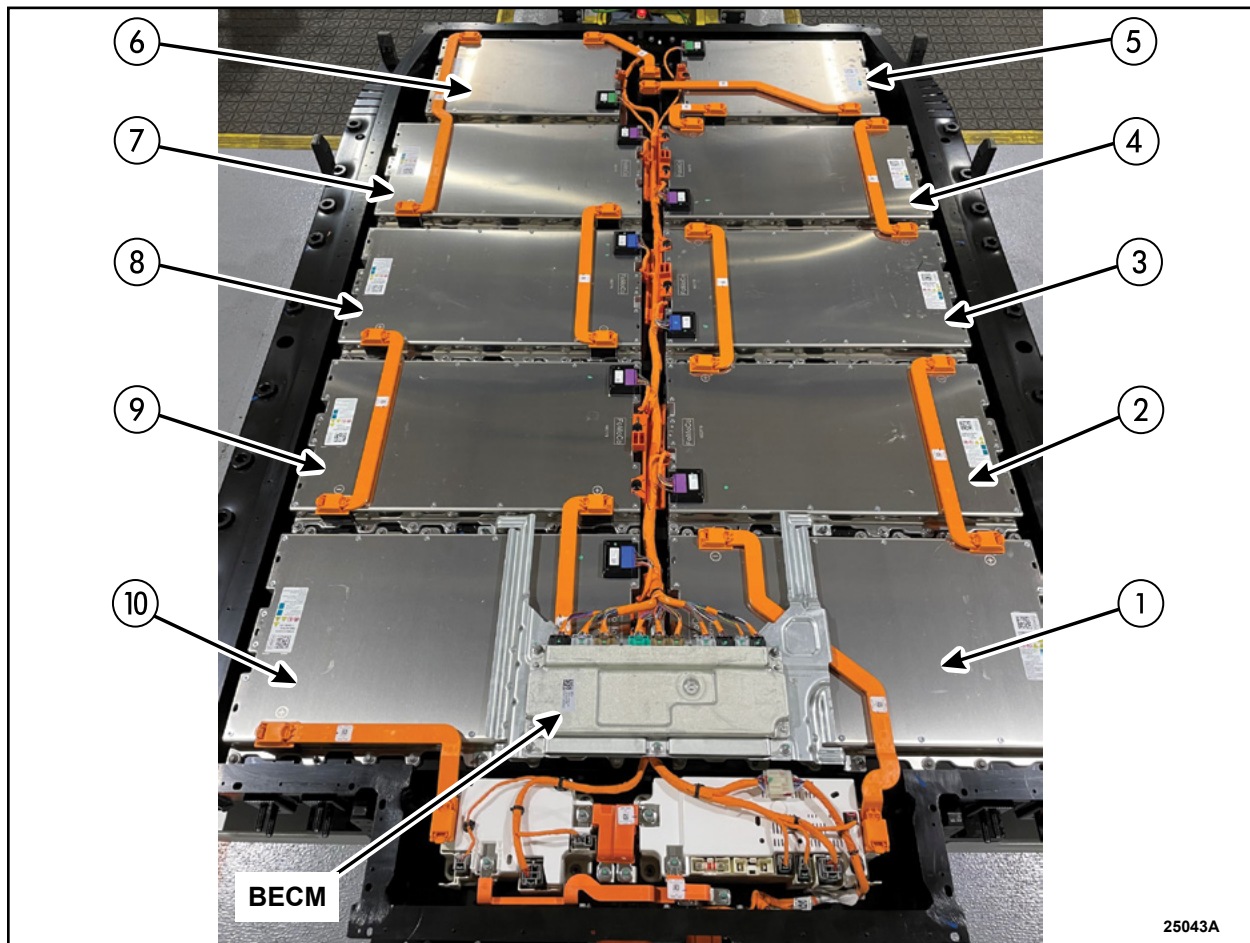

FIGURE 1
2. Identify the location and orientation of the high voltage battery modules and the Battery Energy Control Module (BECM). See Figure 1.
See Figures 1 and 2.